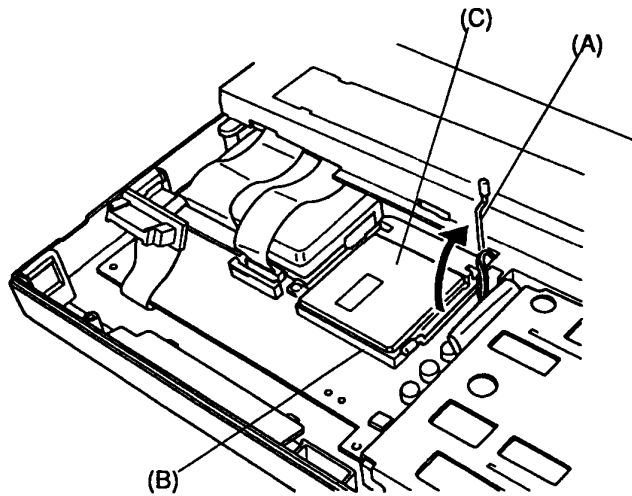

Figure 4-10 Releasing the T4400SXC CPU lever
To remove the T4400SXC's Central Processing Unit (CPU) follow these steps and refer to figures 4-10 and 4-11:
3. Lift the lever (A) on the left side of the CPU socket (B) to release the CPU (C) from its socket. Lift the lever up until you hear a click indicating the lever is fully extended. Refer to figure 4-10.
1. Make sure the lever on the CPU socket is fully extended as shown in figure 4-10.